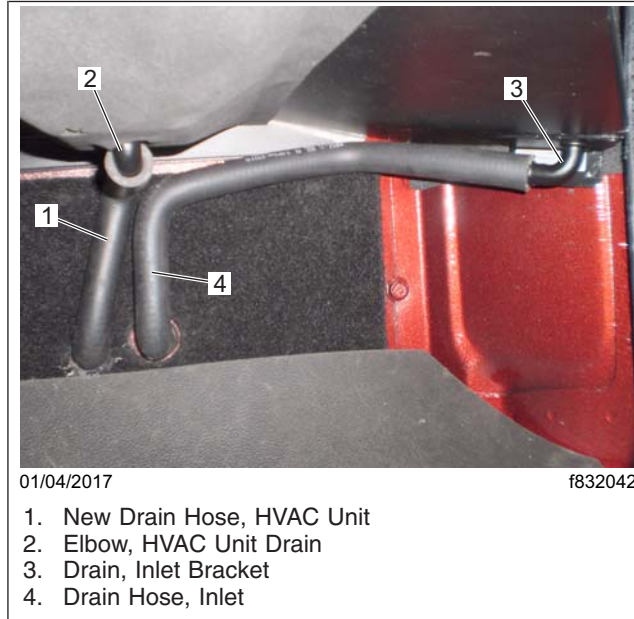

Fig. 6, Drain Hose Installation
14. Install the drain hoses from the HVAC sump and the new intake drain to the pass-through fittings. See Fig. 6.